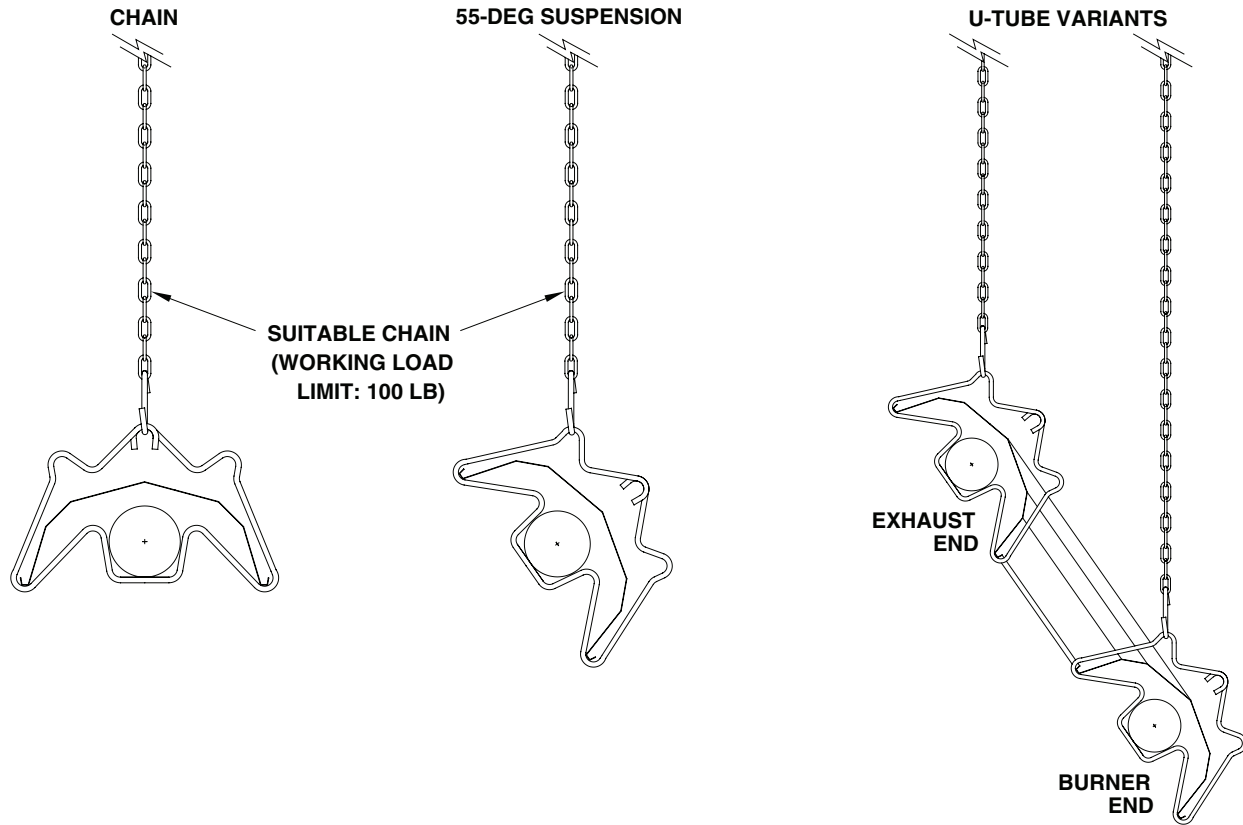

Figure 18. Suspension Bracket Configurations
4. Connect S-hook to each suspension bracket on reflector/emitter tube assembly and suspend using turnbuckle and/or chain and S-hook, ensuring that turnbuckle and/or chain is plumb. Suspension bracket configurations are shown in Figure 18.